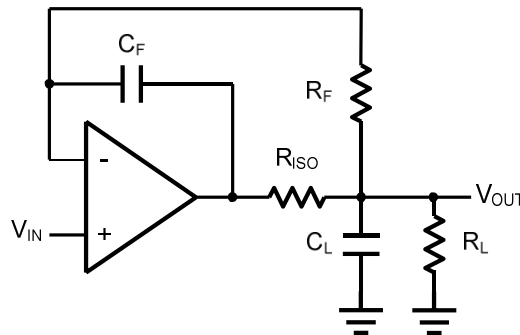

**Figure 2. Indirectly Driving a Capacitive Load Using Isolation Resistor**
The HGV602X family is optimized for bandwidth and speed, not for driving capacitive loads. Output capacitance will create a pole in the amplifier's feedback path, leading to excessive peaking and potential oscillation. If dealing with load capacitance is a requirement of the application, the two strategies to consider are (1) using a small resistor in series with the amplifier's output and the load capacitance and (2) reducing the bandwidth of the amplifier's feedback loop by increasing the overall noise gain. Figure 2. shows a unity gain follower using the series resistor strategy. The resistor isolates the output from the capacitance and, more importantly, creates a zero in the feedback path that compensates for the pole created by the output capacitance.
The circuit in Figure 3 is an improvement to the one in Figure 2. RF provides the DC accuracy by feed-forward the VIN to RL. CF and RISO serve to counteract the loss of phase margin by feeding the high frequency component of the output signal back to the amplifier's inverting input, thereby preserving the phase margin in the overall feedback loop. Capacitive drive can be increased by increasing the value of CF. This in turn will slow down the pulse response.